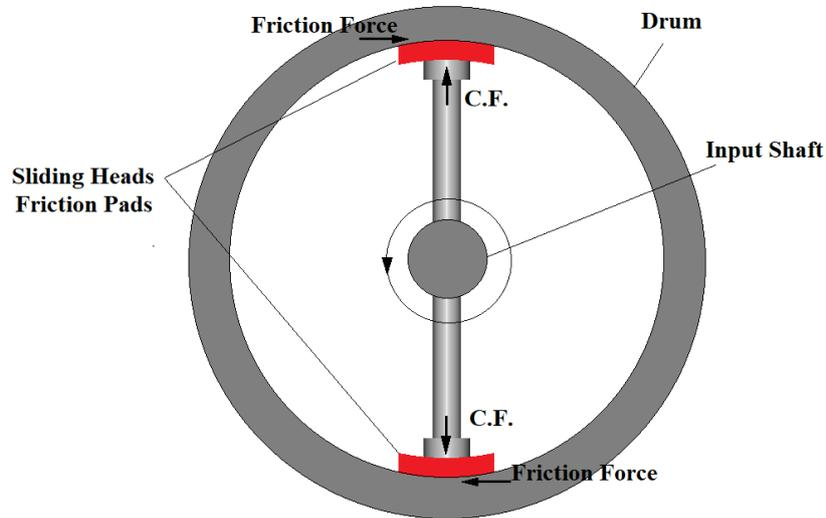

Figure 6
1. A centrifugal clutch is similar to that shown in figure 6.